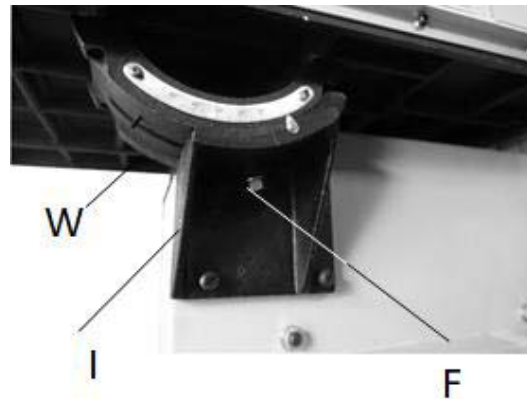

Fig. 9: Assembly of the worktable
Step 3: Attach the work table (Pos. W, Fig. 9) using the fastening screw (Pos. F, Fig. 9) and nut to the swivel device (Pos. I, Fig. 9).